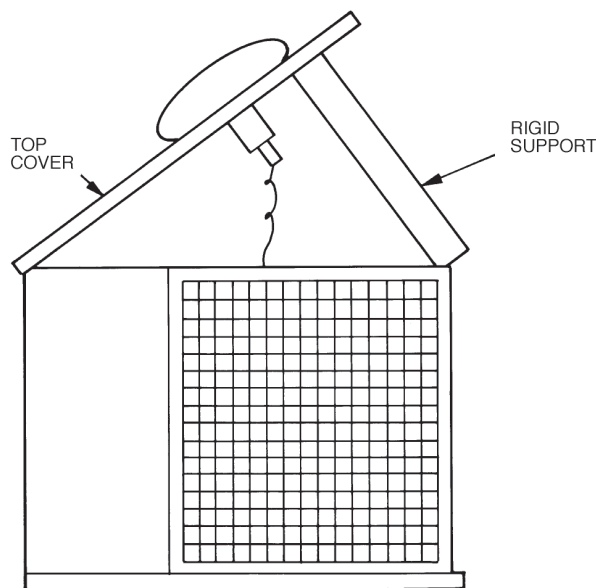

Fig. 43 - Pivot and Support Top Cover
2. Remove screws holding rear corner posts and top cover in place. Pivot top cover up 12 to 18 in. (305 to 457 mm) and support with a rigid support. See Fig. 43.
2. Remove screws holding rear corner post and top cover in place. Pivot top cover up 12 to 18 inches (305 to 457 mm) and support with a rigid support. See Fig. 43.